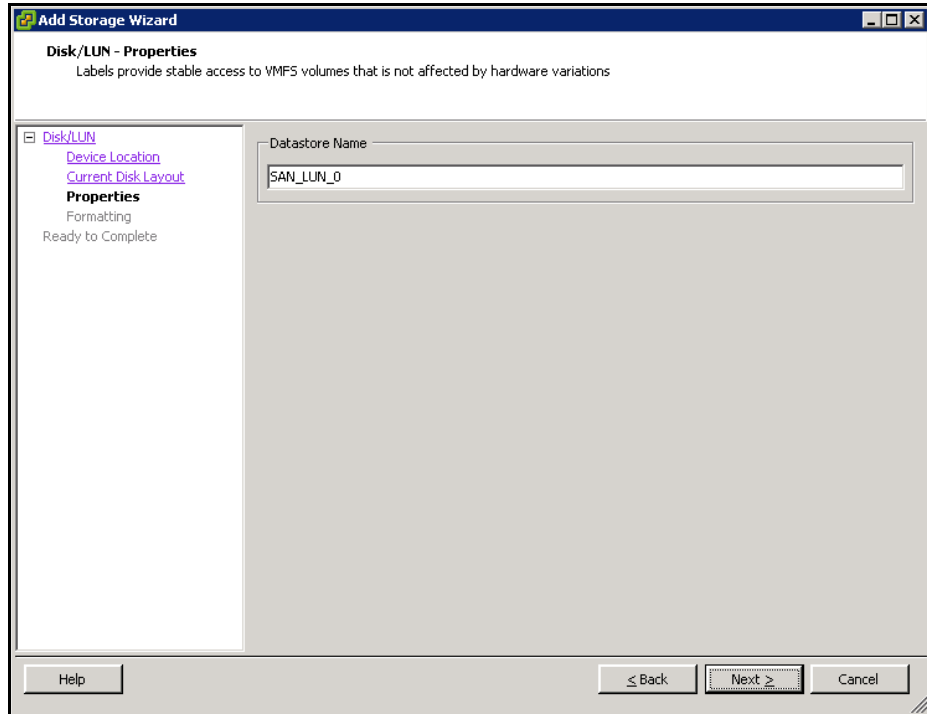

Figure 4-20: Disk/LUN Properties Screen (Add Storage Wizard)
18. Click **Next**. The Disk/LUN Properties screen appears (Figure 4-20).